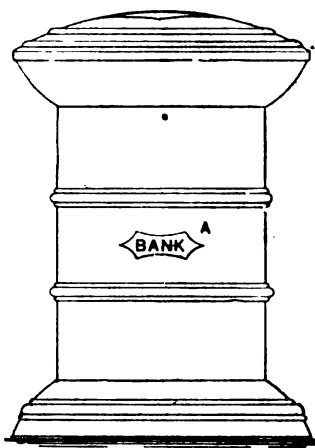

Fig. 1
**Brass Money Box.**—To make a brass savings bank or money box (Fig. 1), cut a piece of sheet brass  $1\frac{1}{2}$  in. long by 4 in. wide. Clean it with emery-cloth, planish, bend it round over a mandrel, and braze the ends together, using borax as a flux. File the joint smooth, and raise two swagings on it, each to be  $\frac{1}{2}$  in. distant from the ends. This constitutes the body. For the foot, cut a disc of brass  $\frac{5}{8}$  in. in diameter, and hollow it on a block so that it resembles an inverted saucer. Swage this about  $\frac{1}{4}$  in. distant from its edges, and cut a 2-in. hole out of the centre. Now file the edges perfectly plane, and solder the body on, having first fixed it in the centre. The top
is made by cutting two discs of brass each  $\frac{5}{8}$  in. in diameter, and hollowing them together on a block, to resemble a shallow bowl. File the edges of these perfectly plane, and swage one about  $\frac{1}{4}$  in. distant from the edge, afterwards jennying up a small edge. In this, the top hollow, cut a central slot to allow a large coin to pass through easily. Now file the bottom hollow, so that when an edge has been jennyed up it will fit tightly into the top. Cut a 3-in. hole out of the centre, and solder both hollows together, afterwards fixing the top over the centre of the body and soldering round. A small slot plate (Fig. 2) will show to better advantage if made of German silver. File it so that any coin can pass through easily, hollow it slightly to fit the top, and after fixing it in the centre solder it on. Now, if desirable, cut a name-plate A (Fig. 1) of German silver, and stamp or etch the name on; then fit it to the body, and solder it on. Cut a disc of brass about 3 in. in diameter, to be soldered underneath the foot over the 2-in. hole. When full, the bank can be emptied by unsoldering this disc, without in any way injuring the bank. Scrape off superfluous solder, and clean with emery and oil.